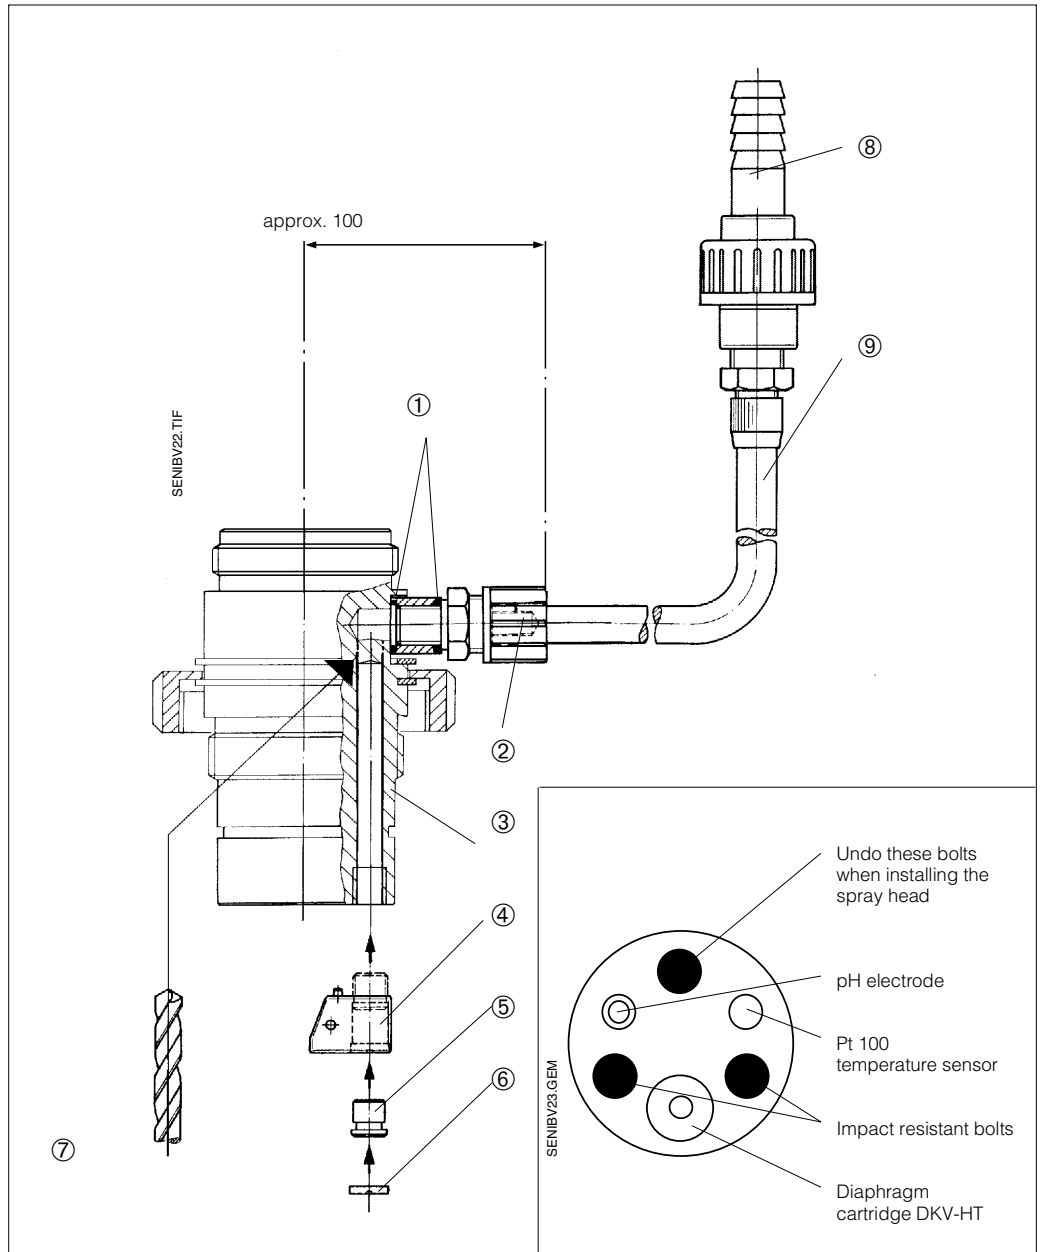

Fig. 22: Installation of cleaning system CPR 3 and connection fitting
- Drill out the predrilled connection channel (Fig. 22).